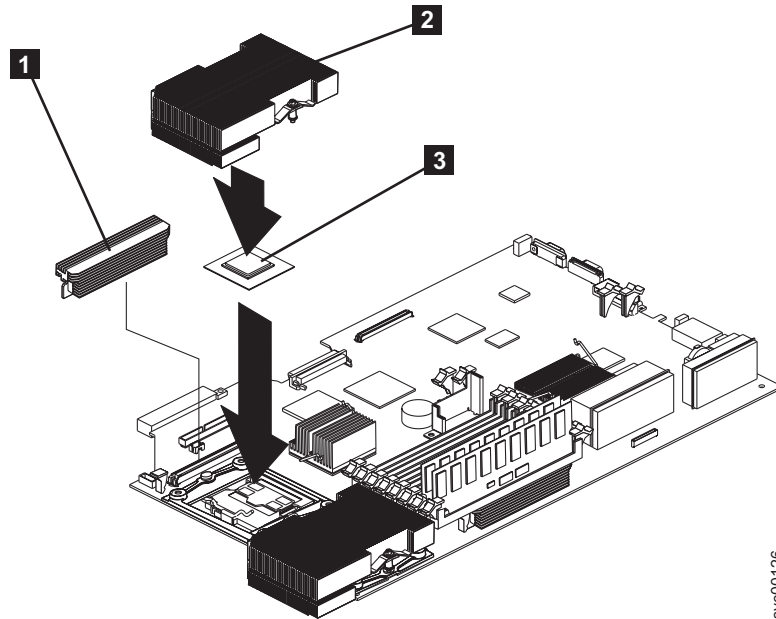

Figure 190. Microprocessor and heat sink locations
7. Install the heat sink **2** on top of the microprocessor **3**, as shown in Figure 190.